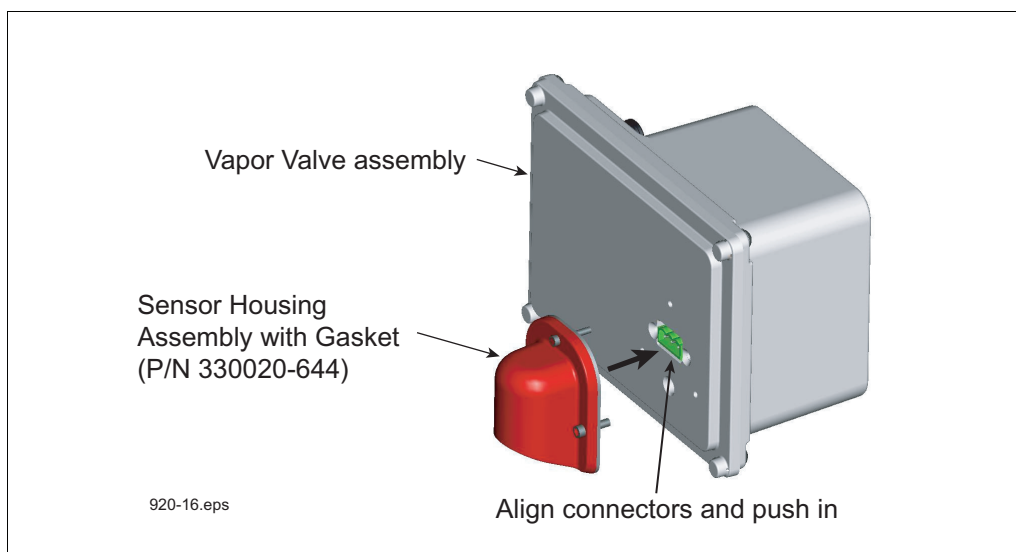

Figure 14. Replacing sensor housing assembly
3. Align the replacement sensor housing assembly's connector with the connector in the vapor valve assembly and push in the assembly until it seats against the vapor valve assembly (see Figure 14).